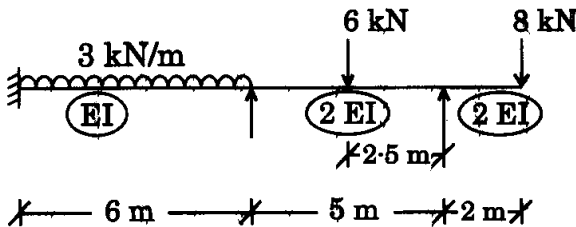

Figure 2
3. Analyse the beam as shown in Figure 2 by moment distribution method. Calculate the support moments and reactions. Flexural rigidity is shown as in circles. Draw the BM and SF diagrams.